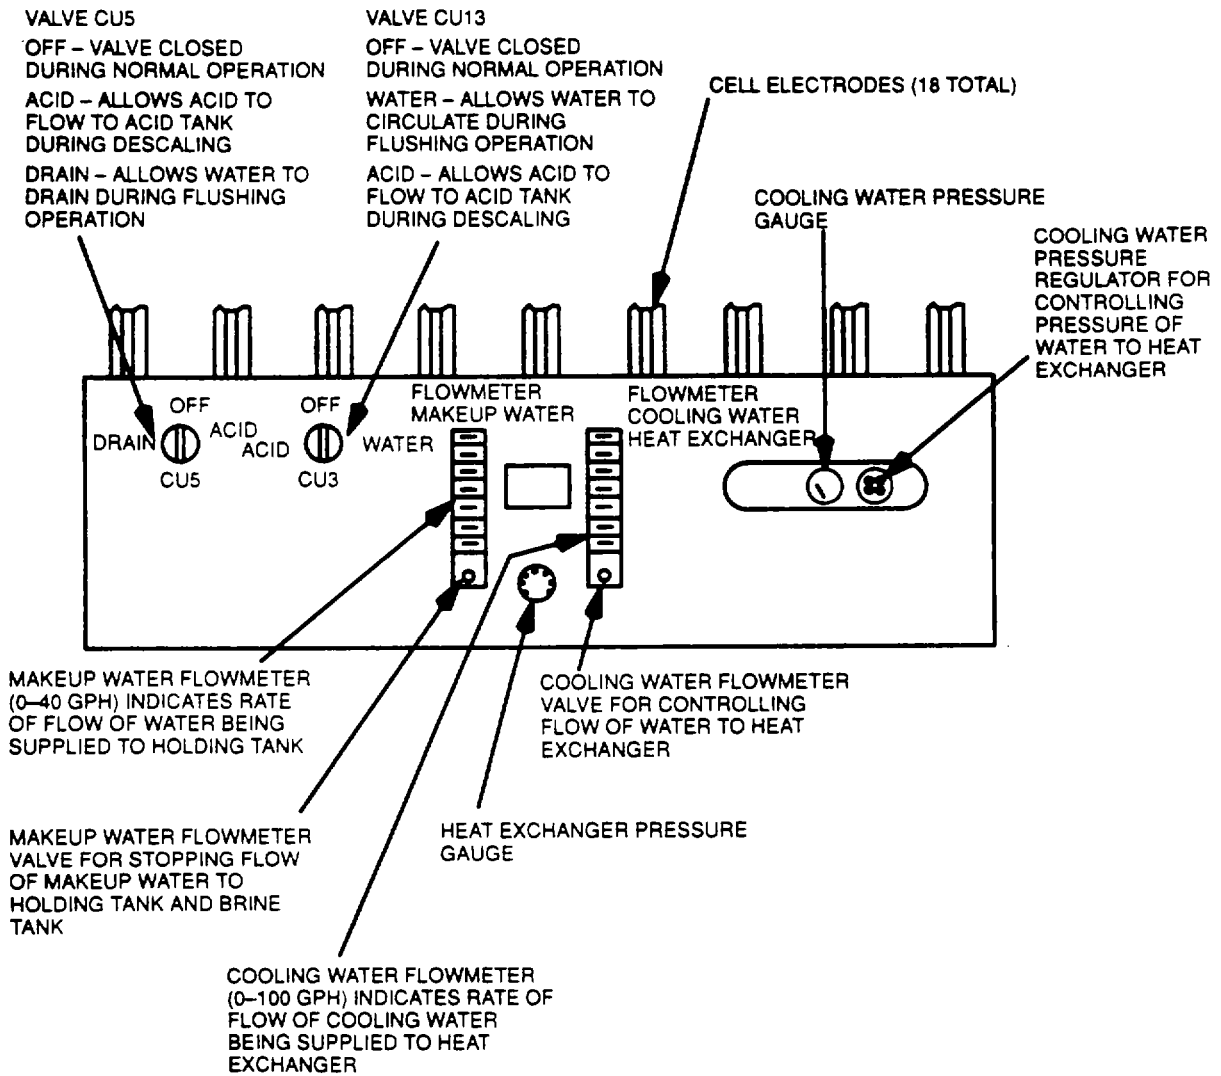

Figure 3-1. Chlorination Unit Controls and Indicators
h. Adjust chlorination unit cooling water flowmeter and pressure regulator (Figure 3-1) to 80 gallons per hour (gph) at 10 psi.
- i. Set Chlorination unit makeup water flowmeter (Figure 3-1) to 36 gph.